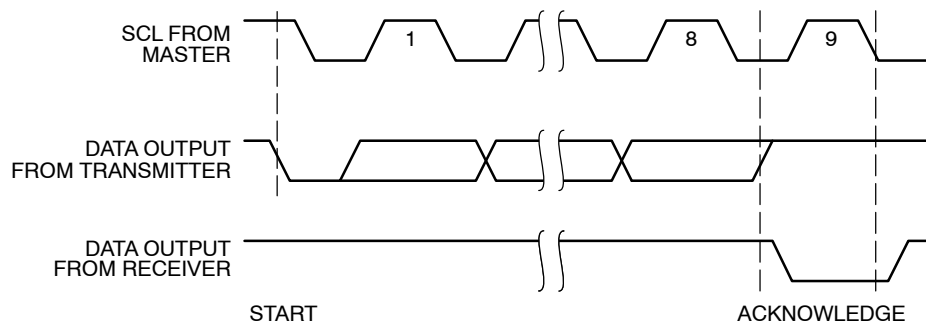
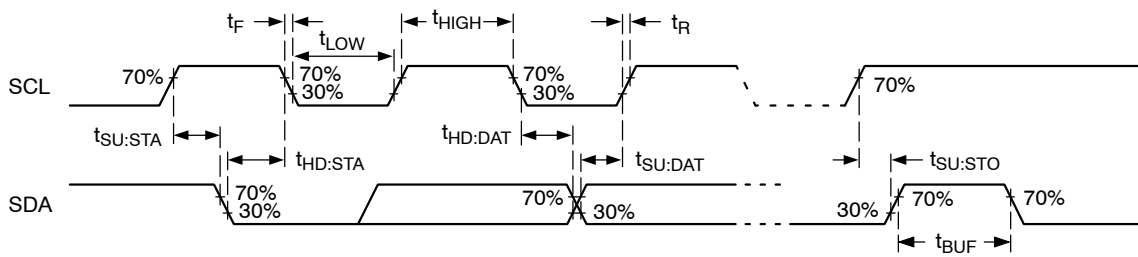

Figure 10. Acknowledge Timing
Figure 11. Bus Timing
- Timing reference points are set at 30%, respectively 70% of V_{CC} , as illustrated in Figure 11. Bus loading must be such as to allow meeting the V_{IL} , V_{OL} as well as the various timing limits.
A matching Slave address is acknowledged (ACK) by the Slave by pulling down the SDA line during the 9th clock cycle (Figure 10). After that, the Slave will acknowledge all data bytes sent to the bus by the Master. When the Slave is the transmitter, the Master will in turn acknowledge data bytes in the 9th clock cycle. The Slave will stop transmitting after the Master does not respond with acknowledge (NoACK) and then issues a STOP. Bus timing is illustrated in Figure 11.